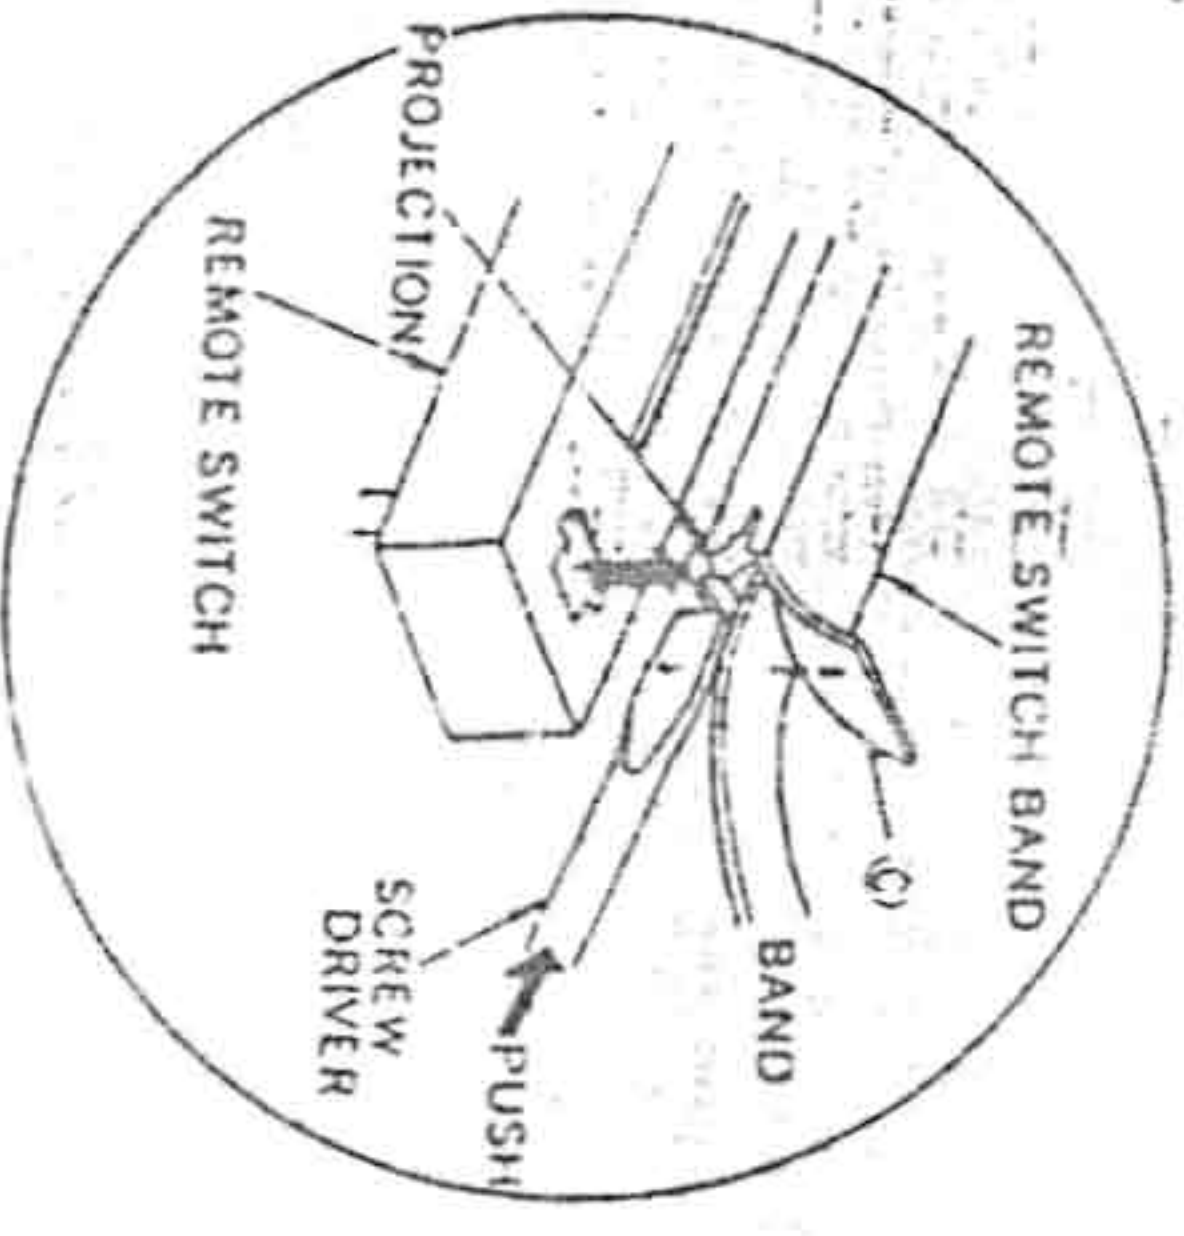

Fig. 2
[Fig. 2]
1. Use a small screwdriver to push the projection of the remote-switch bands in the direction shown by the arrow in figure 2, and remove them from the remote switch.
Note: When removing the remote-switch bands, be careful not to hold them as shown in (C) of figure 2, because to do so may result in damage. Also be careful not to bend or twist the bands excessively.
- 3) Make the adjustment in the same way as mentioned in 2-1 by regulating R529 (L ch) and R530 (R ch) so that the 9th segment (at 50W position) is about to turn on. Refer to fig. 2.